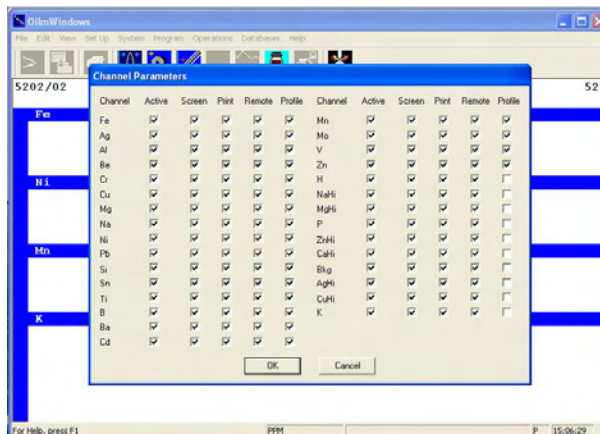

Figure 3-67, Elements to be Included in SID Database base.
- *Elements to include:* The analytical elements that will be included in the database file are determined by the setup in the menu Program>Channels>Parameters. In our example, Figure 3-67, the elements checked off for “Remote” transfer will be included in the SID data-